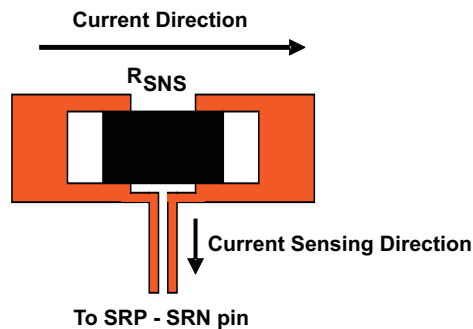

Figure 20. Sensing Resistor PCB Layout
4. The charging-current sensing resistor should be placed right next to the inductor output. Route the sense leads connected across the sensing resistor back to the IC in same layer, close to each other (minimize loop area) and do not route the sense leads through a high-current path (see Figure 20 for Kelvin connection for best current accuracy). Place the decoupling capacitor on these traces next to the IC.